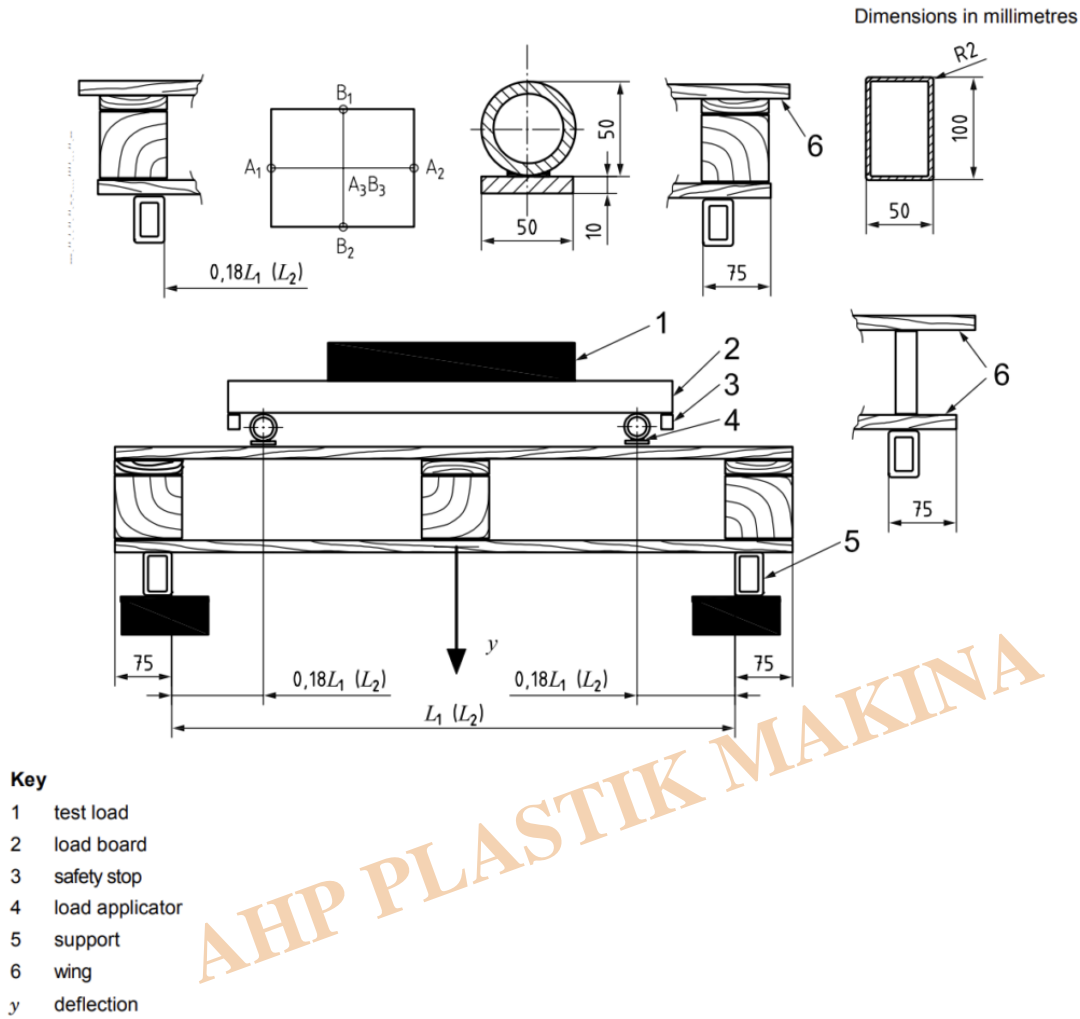

Figure 1 — Bending test
8.1.2.2 This having been established, place a fresh pallet across its weakest side, top deck uppermost, on pallet supports positioned with their inside edges 75 mm from the outer edges of the pallet. The load applicators shall be positioned at 0,18 L1 or 0,18 L2, where measured as shown, where L1 or L2 is the distance between the pallet supports (see Figure 1).